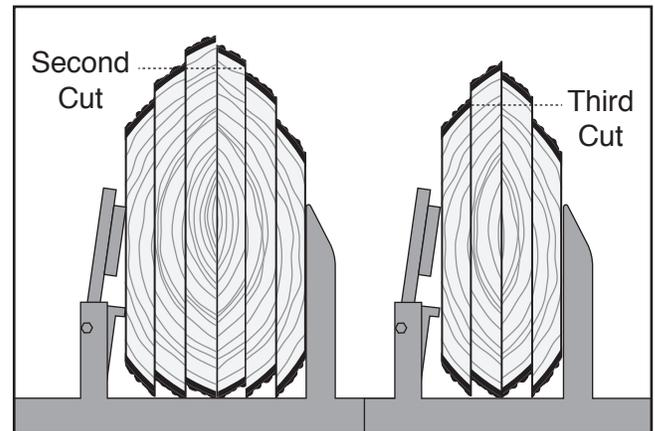

Figure 87. Tallest flitches to be removed after each cut.
3. Remove edged flitches, then secure the rest (see **Figure 87**).
4. Repeat **Steps 2–3** until all flitches have been edged once (see **Figure 87**).